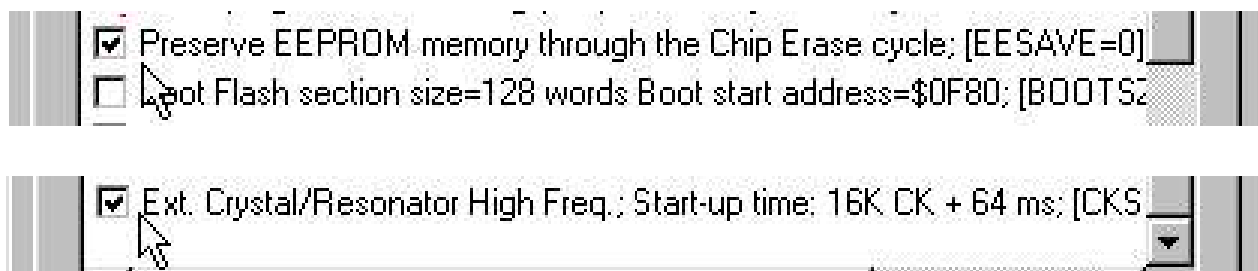

FIGURE B-12: CPU CONFIGURATION USING AVR STUDIO
- D6) Configure CPU as indicated in images of figure B-12.